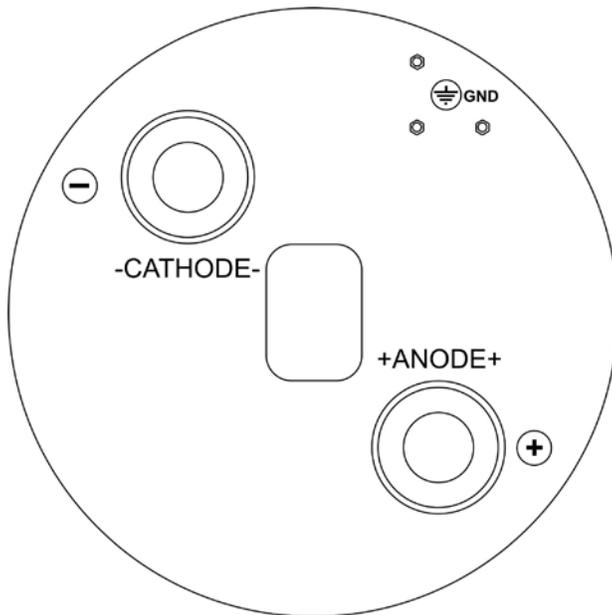

Figure 2-10: HV connectors (1 tube tanks)
3. Connect the high-tension cables as per the installation requirements. Ensure that the cables for tube 1 (and tube 2 if used) are plugged into the proper connectors on the HT tank. Refer to figure 2-10 and 2-11.